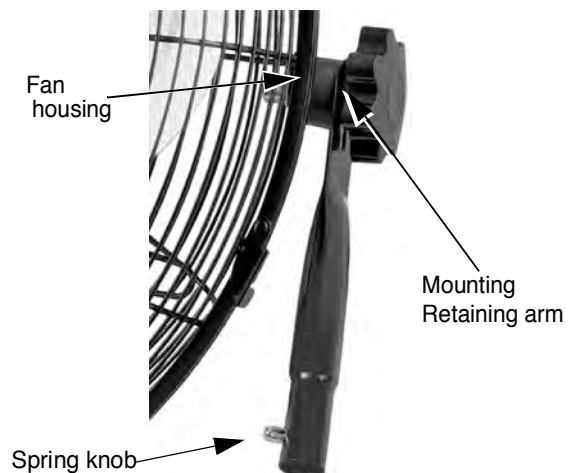

Fig. 7: Retaining arm
Step 1: Make sure that the retaining arms are correctly connected to the fan housing on both sides (Fig. 7). Turn the star-shaped grip nut counterclockwise to loosen the screw connection.